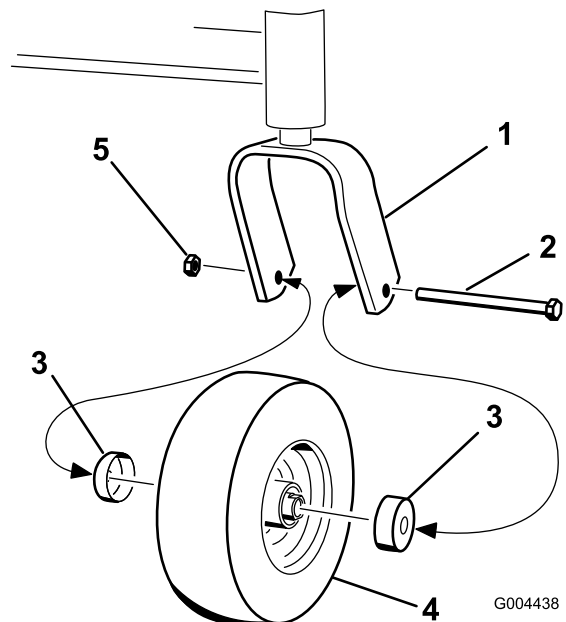

Figure 28
4. Remove then nut and bolt holding the caster wheel to the front caster fork (Figure 28).
5. Remove the seal guard from the wheel hub (Figure 28).
17. Install the seal guards over the wheel hubs and insert the wheel into the caster fork (Figure 28).
18. Install the caster bolt and tighten the nut (Figure 28).